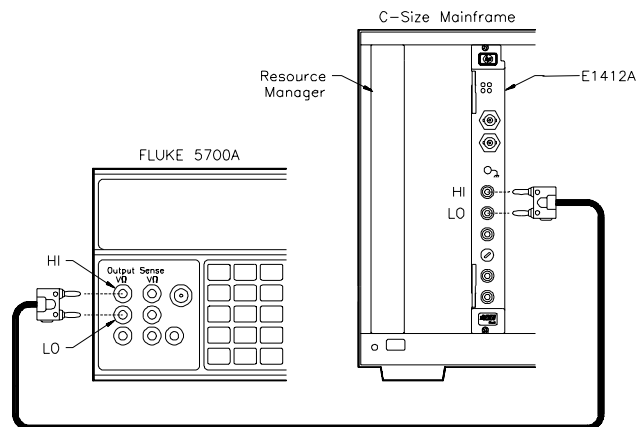

Figure 4-3. Resistance (2-Wire) Gain Verification Test Setup.
1. Connect a short across the HI and LO terminals of the multimeter test leads (at the calibrator end) as shown in Figure 4-3.